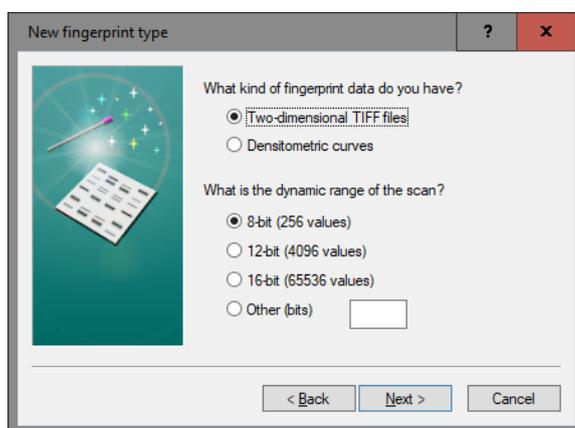

Figure 6: Fingerprint type settings.
8. In the page of the *New fingerprint type* wizard, make sure that **Two-dimensional TIFF files** is selected and select the dynamic range of the data: i.e. **8-bit** for the example files (see Figure 6). Press **<Next>**.